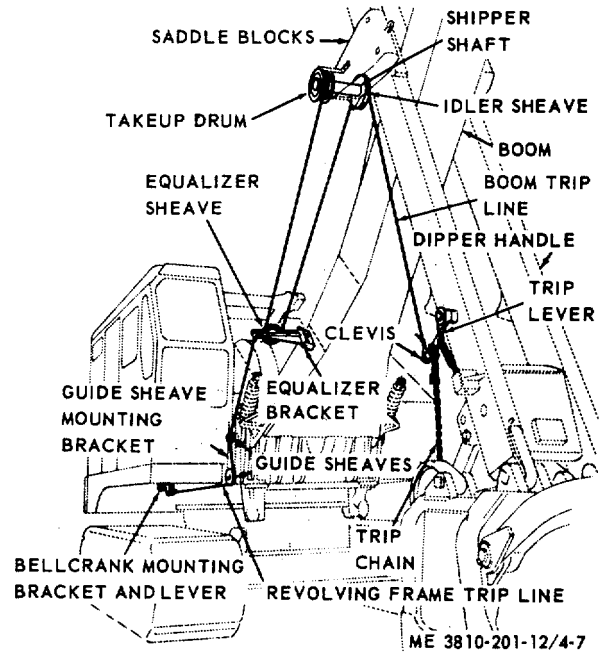

Figure 4-7. Dipper trip lines, installed view.
from trip lever over idler sheave on shipper shaft, through equalizer sheave on equalizer bracket back to take up drum on shipper shaft (fig. 4-7). The revolving frame trip line runs from equalizer bracket on boom, through guide sheaves on bracket mounted on revolving frame at boom foot to bellcrank lever mounted underneath revolving frame. When properly adjusted (para 3-37 and 3-38), dipper is tripped when dipper trip lever (fig. 2-23) is actuated.
(3) Install bellcrank mounting bracket under revolving frame, and guide sheave mounting bracket on revolving frame at boom foot (fig. 4-7).